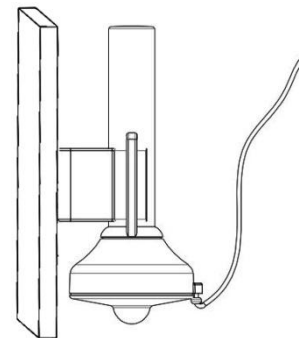

Figure 4
- 3.2.3 The first step of the installation process is to securely fix the clip to a suitable position using screws. The second step is to insert the light head into the clip and ensure that it is locked in place, as shown Figure 4.